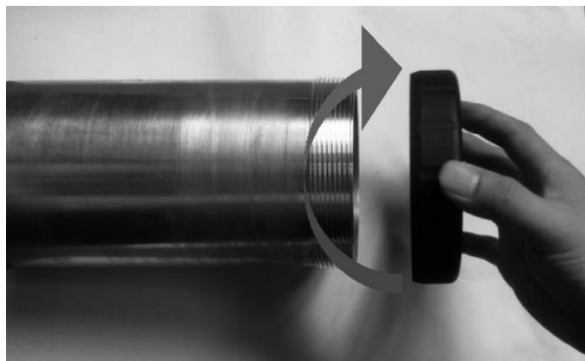

Fig. 3
4.1.1 Install or change piling socket retainer. Select a corresponding retainer according to the sizes of the pin of 49mm、69mm、100mm. See Fig. 3.